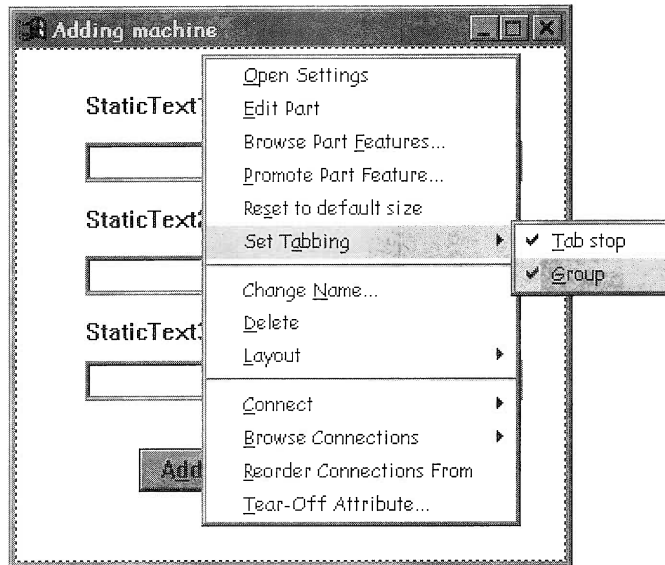

Figure 49: Setting tabs and groups
3. Select **Set tabbing, Tab stop** to set tabbing on, as shown in Figure 49.